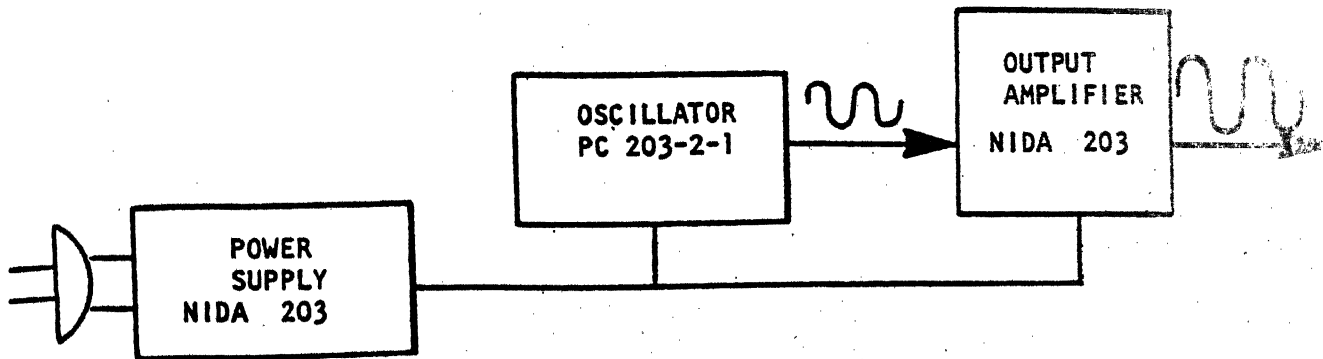

Figure 4
15. To accomplish Step 4, which is localizing the faulty function, you will use test equipment to isolate the malfunction to one function. Refer to Figure 4, and to page 4-9 of the NIDA Manual.
7. The purpose of capacitor C2 in Figure 4 is to